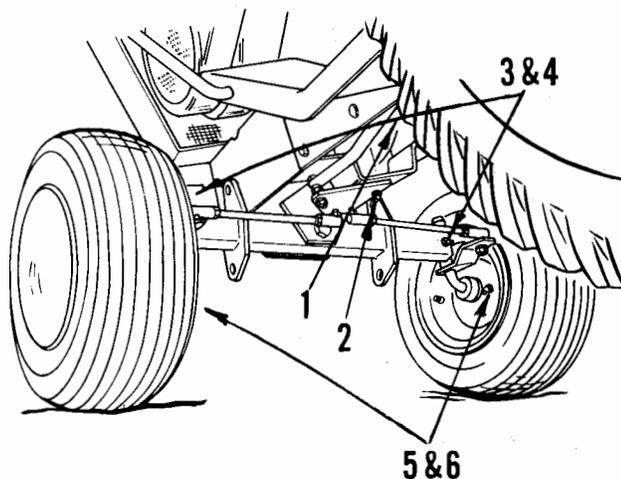
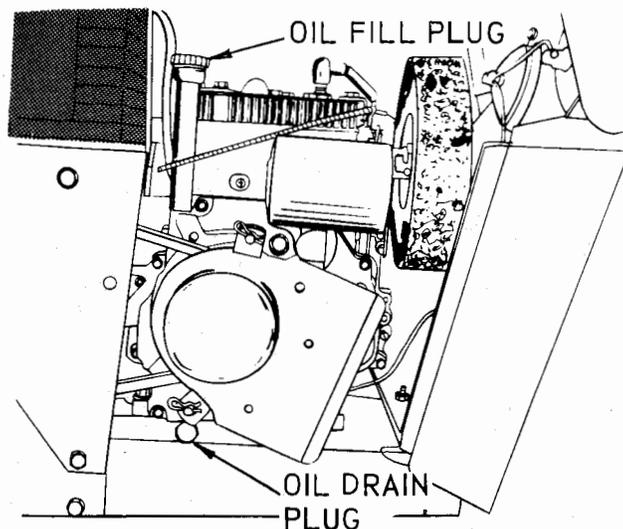
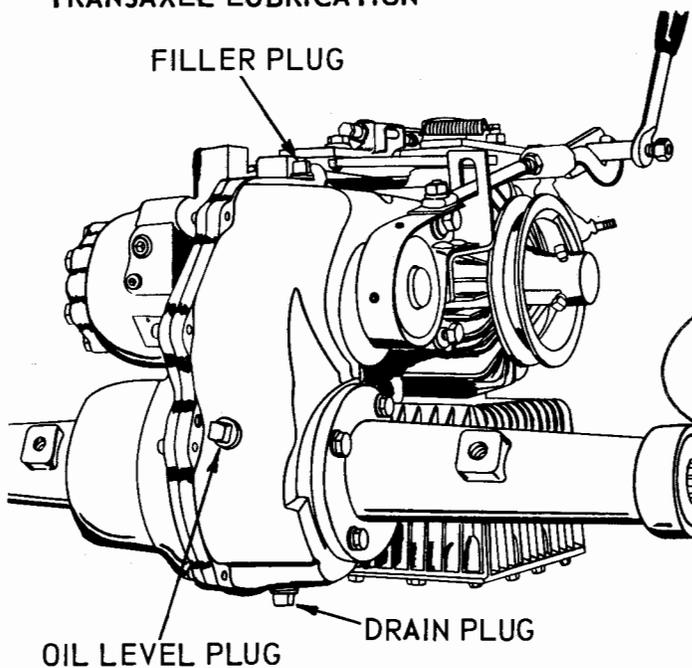

FIG. 10
FIG. 11
FIG. 12
- To drain oil, unscrew oil drain plug at lower R.H. side of engine, see Fig. 11. Catch oil in suitable container.
There are only 6 grease fittings on your tractor: Give each grease fitting two shots of grease every five hours of operation. Use Sears All-purpose Lithium gun grease or equivalent. Refer to Fig. 10. Check oil in engine crankcase at least every five hours of operation. Change oil every twenty-five hours of normal operation. In extremely dirty or dusty conditions, change oil every fifteen or twenty hours of operation. Refer to Fig. 11. Check oil in transaxle every fifty hours of operation. Change oil in transaxle every five hundred hours of operation. Refer to Fig. 12.
1. Check oil in transaxle every 50 hours of operation. To check oil level, remove oil level plug (Fig. 12), from transaxle. Oil level should be even with this plug.
2. Change oil in transaxle after 500 hours of operation. To drain, remove drain plug (Fig. 12), and catch oil in a suitable container.
3. To fill transaxle, use 2 pints of Allstate S.A.E. 90 motor oil or equivalent. Fill through filler plug as shown in Fig. 12.